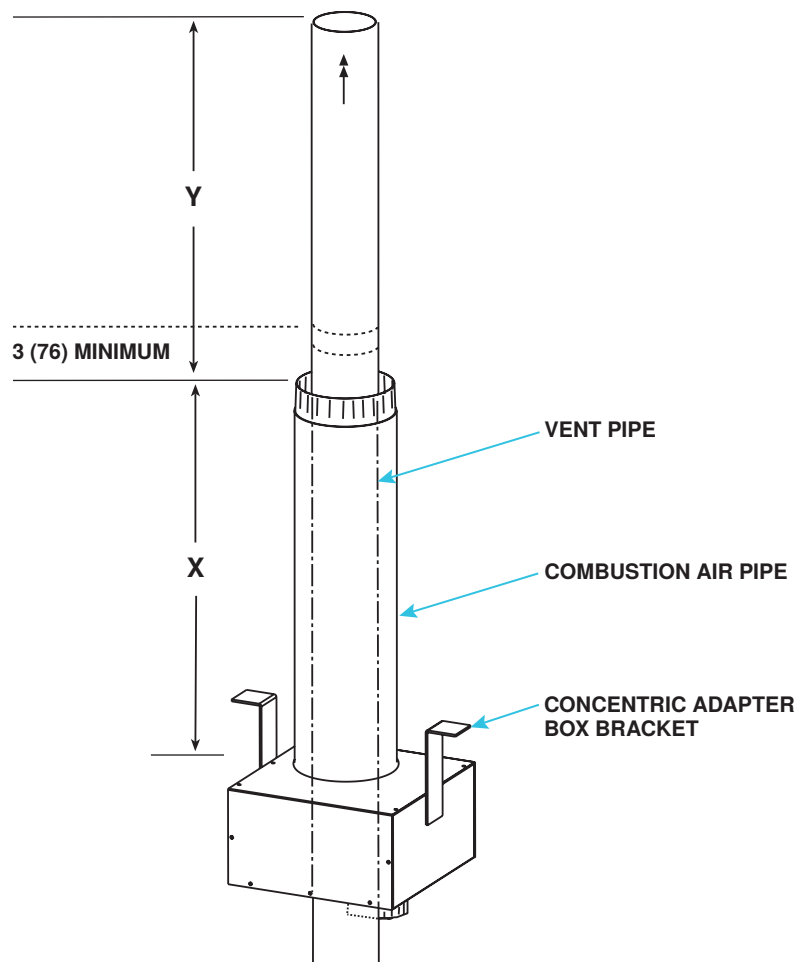

Figure 22. Combustion Air Pipe Installation
5. Connect outside section of combustion air pipe to concentric adapter box (see Figure 22):
- a. Refer to Figure 22 to determine length of dimension X as follows:
- (1) Bracket length
- (2) Plus roof thickness
- (3) Plus anticipated snow depth
- b. Second section of double-wall pipe (see dimension Y in Figure 22) may be connected as needed to continuous section of vent pipe. Ensure that connection is minimum of 3 inches (76 mm) above combustion air pipe and that height is 12 inches (305 mm) minimum—34 inches (864 mm) in cold climates where design ambient temperature is -10°F (-23°C) or lower.
6. Secure concentric adapter box to underside of roof (see Figure 22):
- a. Refer to **Figure 22** to determine lengths of each pipe segment and to calculate total length required. Determine minimum length by adding requirements:
- (1) Starting at bottom, vent pipe can extend maximum of 6 inches (152 mm) below box
- (2) Plus 6 inches (152 mm) through box
- (3) Plus length of brackets above box
- (4) Plus width of roof
- (5) Plus height of outside combustion air pipe above roof
- (6) Plus minimum of 3 inches (76 mm) beyond top of inlet air pipe
- (7) Total is minimum length of vent pipe section—if actual piece of vent pipe is longer, extend it farther above combustion air pipe—do not extend it more than 6 inches (152 mm) below box